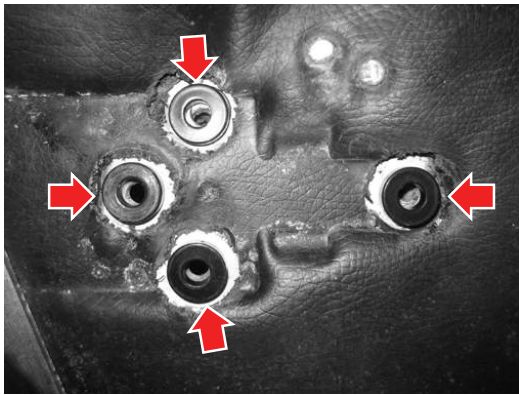

Figure 5-5
8. Place spacers over all 4 holes (see Figure 5-5).